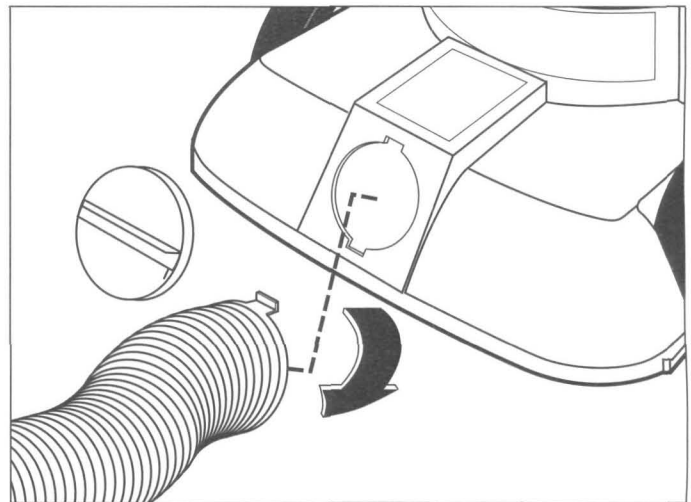

Figure 14: Remove vacuum inlet cap and Install vacuum hose.
B. Line up the tabs on the hose with the slots in the vacuum inlet opening and insert the hose. Turn the hose approximately 1/4 turn clockwise until it is in the **LOCK** position. See Figure 14. (The hose support handle should now be on the top of the hose.)